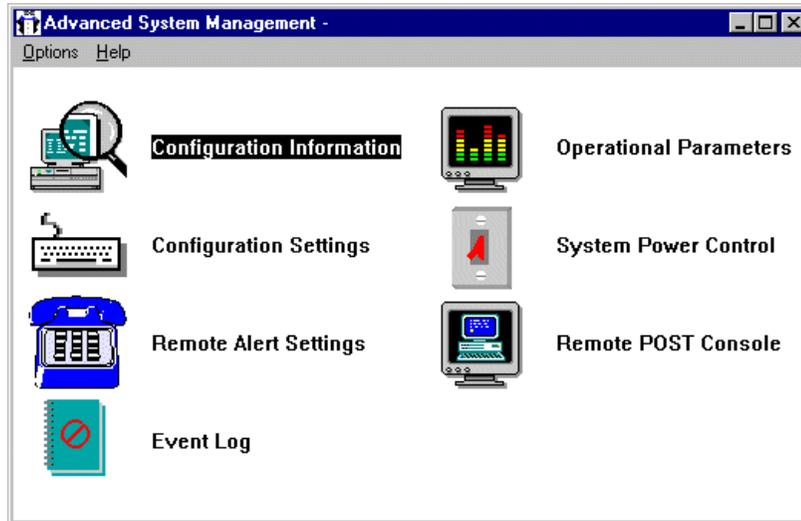

Figure 204. Service Processor Manager Window
2. Double-click **Advanced System Management**. Figure 204 appears: